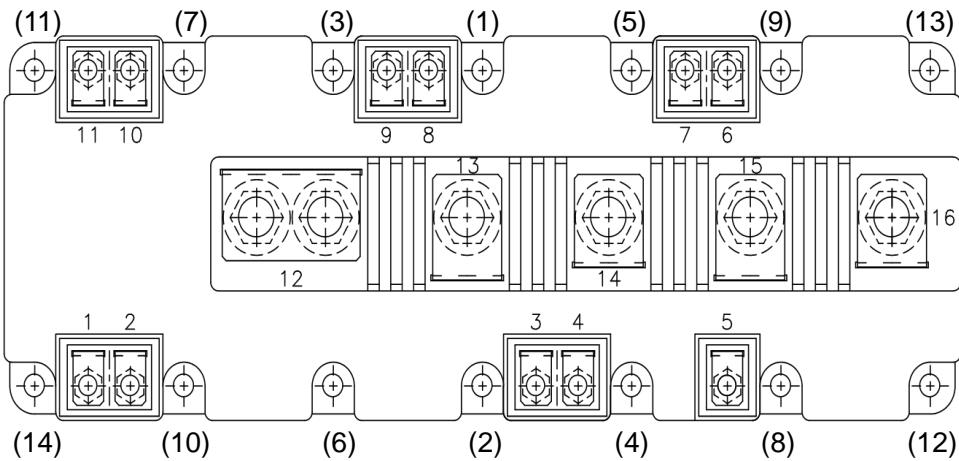

Fig1. Mounting holes connecting sequence (1) – (14) (M404 package)
(a) The minimum and maximum screw torque for mounting screws (M5) indicated as (1)-(14) in Fig.1 are:
(b) Pre-fastening is recommended with 1/3 of the final torque and sequence of (1) – (14) in Fig1.
(c) Final torque must be within specified force of 3.0 to 6.0Nm with sequence of (1) – (14) in Fig1.